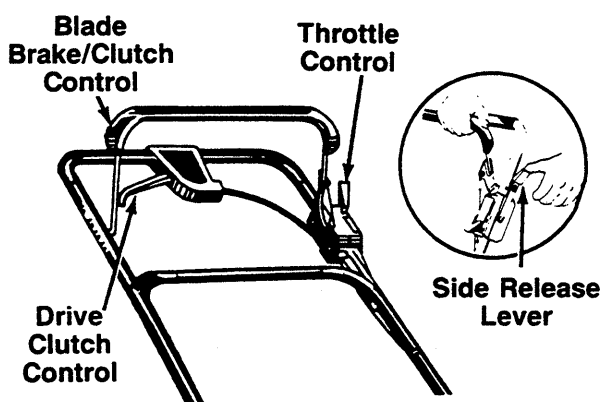

FIGURE 16.
drive clutch control to slow down when negotiating an obstacle, making a turn or stopping. See figure 16.
To engage the blade, pull the side release lever away from the unit. See figure 16. Pull the blade brake/clutch control handle against the upper handle. Release side lever.
2. To engage the blade, pull the side release lever away from the unit. Pull the blade brake/clutch control handle down against the upper handle. Release the side lever. See figure 16.